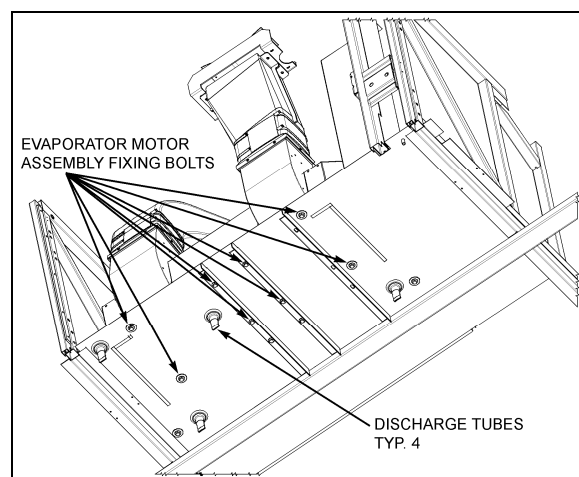

FIGURE 27: EVAPORATOR MOTOR ASSY FIXING BOLTS
- From under the vehicle, remove the eight bolts retaining the evaporator fan motor support. Remove the complete unit from the evaporator compartment (Fig. 27 & 28).